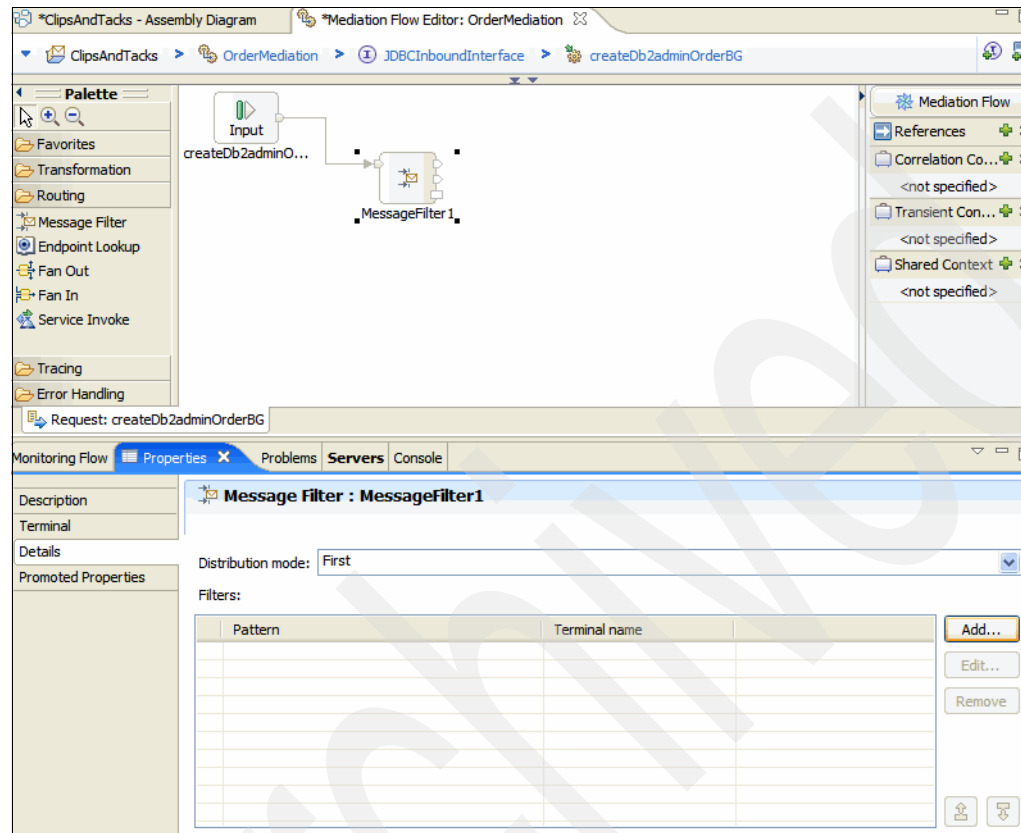

Figure 6-81 Adding filters
4. Select the **Message Filter** primitive. Then click the **Properties** tab and the **Details** subtab (Figure 6-81) and click **Add**.